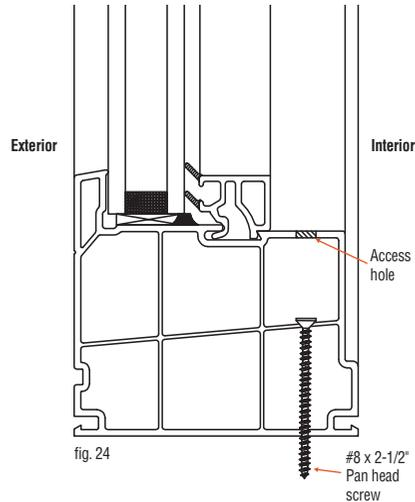

fig. 24
- Pre-drill 3/8" access holes through the outer wall of the frame as shown on **fig 24**. Place the holes 4" from each corner and then spaced evenly every 8" to 14" apart. The number of fasteners are dependent on the overall frame size.